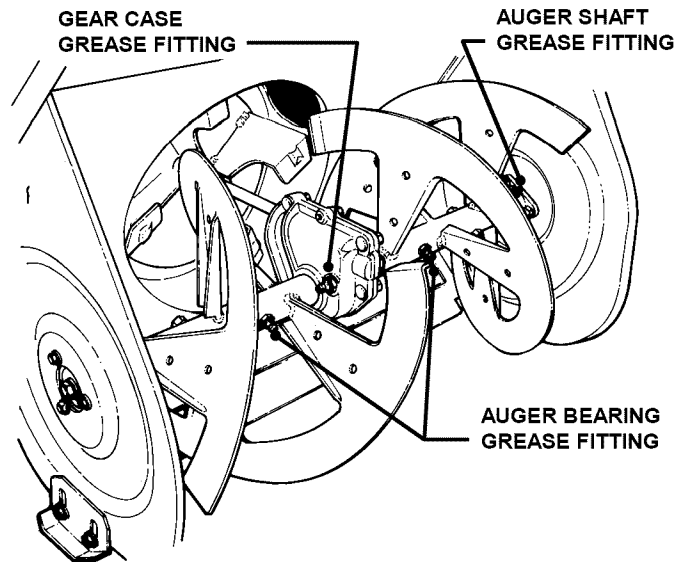

FIGURE 3.2
1. Before each season of operation, apply two shots of grease (Snapper suggests using Benalene 900) from a grease gun into gear case. The grease fitting for the gear case is located in front of the gear case. See Figure 3.2.
2. Before each season of operation, apply two shots of grease (Snapper suggest using Benalene 900) from a grease gun into auger bearing. The grease fitting for the auger bearing is located on each end of the auger. See Figure 3.2.
3. Before each season of operation, apply two shots of grease (Snapper suggest using Benalene 900) from a grease gun into the auger shaft. The grease fitting for the auger shaft is located in the middle of each auger. Remove shear bolts and rotate auger to distribute grease evenly around shaft. Reinstall shear bolts and nuts. Tighten to 5 to 10 ft. lb. of torque. See Figure 3.2.